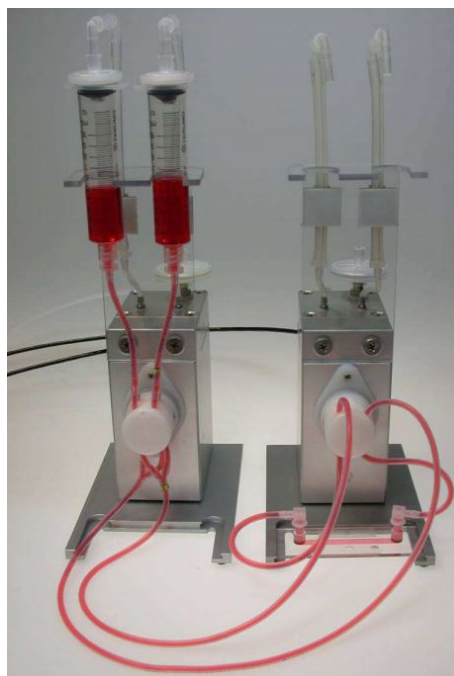

Figure 46 – Set-up for pulsatile flow. The continuous flow created by Fluidic Unit 1 is periodically pinched off by Fluidic Unit 2.
5. Route the tubing of the Perfusion Set which is coming out of the first Fluidic Unit through the pinch valve of the second Fluidic Unit. Make sure that you use either the two front or the two rear openings of the pinch valve for that. Do not intermix front and rear openings. Compare your setup with Figure 46.